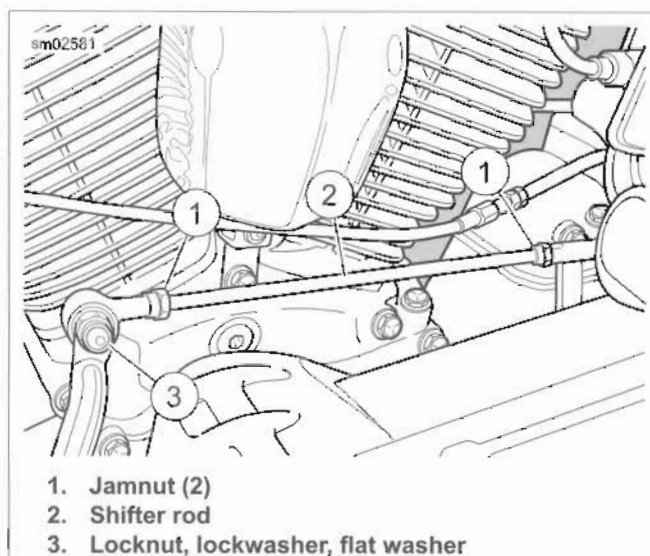

Figure 6-2. Shifter Rod
1. See Figure 6-2. Remove locknut, lockwasher and flat washer (3) to free front end of shifter rod from inner shift arm.
2. Loosen jamnuts (1) and adjust rod (2) as necessary.
4. Tighten locknut (3) with lockwasher and flat washer to 96-144 in-lbs (10.8-16.3 Nm).
5. Tighten jamnuts (1) to 80-120 in-lbs (9.0-13.6 Nm).